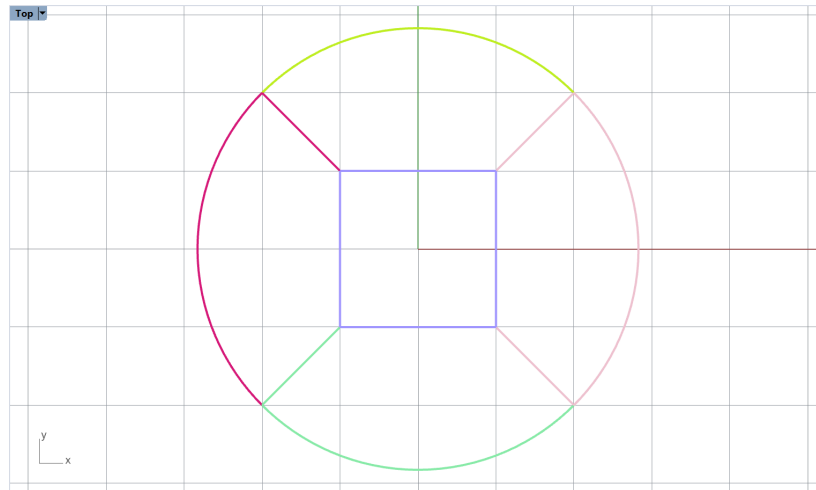

Figure 7: Five colored polylines (some edges overlap).
8. Select all 5 objects and type `_ColorizeObjects` in the command prompt (or click on the  icon in the *Griddle* toolbar). The command will assign a random color to each object (Figure 7).